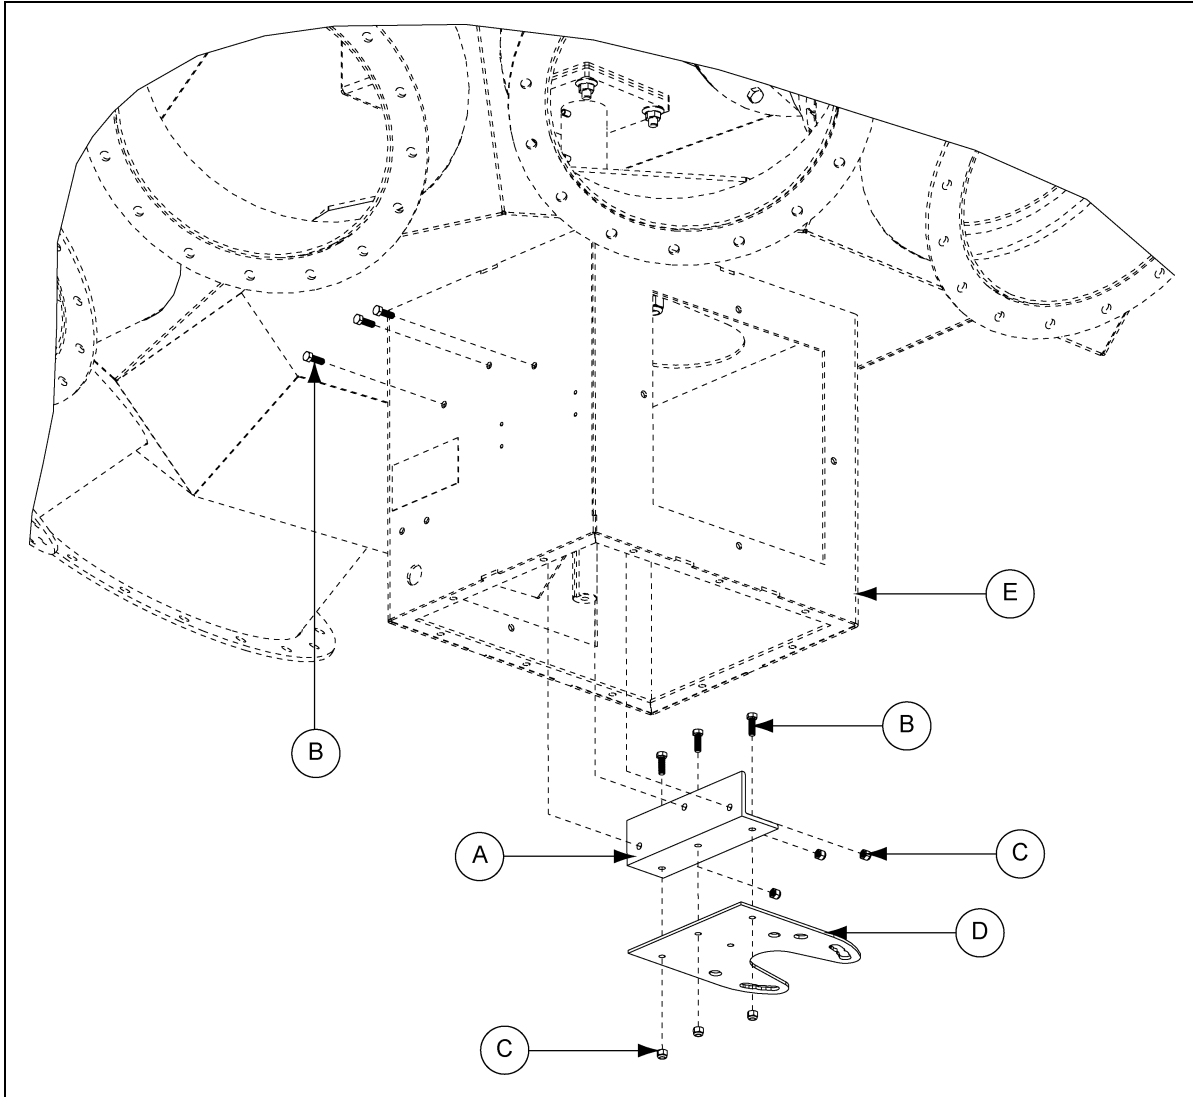

Figure 6C Sensor Plate Angle and Proximity Sensor Bracket
Assemble the sensor plate angle (A) to the proximity sensor bracket (D) using three (3) 1/4"-20 x 3/4" HHCS bolts (B) and 1/4"-20 nylock nuts (C) as shown in Figure 6C.
Attach the proximity sensor bracket (D) to the inside of the enclosure (E) using three (3) 1/4"-20 x 3/4" HHCS bolts (B) and 1/4"-20 nylock nuts (C). (See Figure 6C.) Bracket must be installed with note markings facing down.